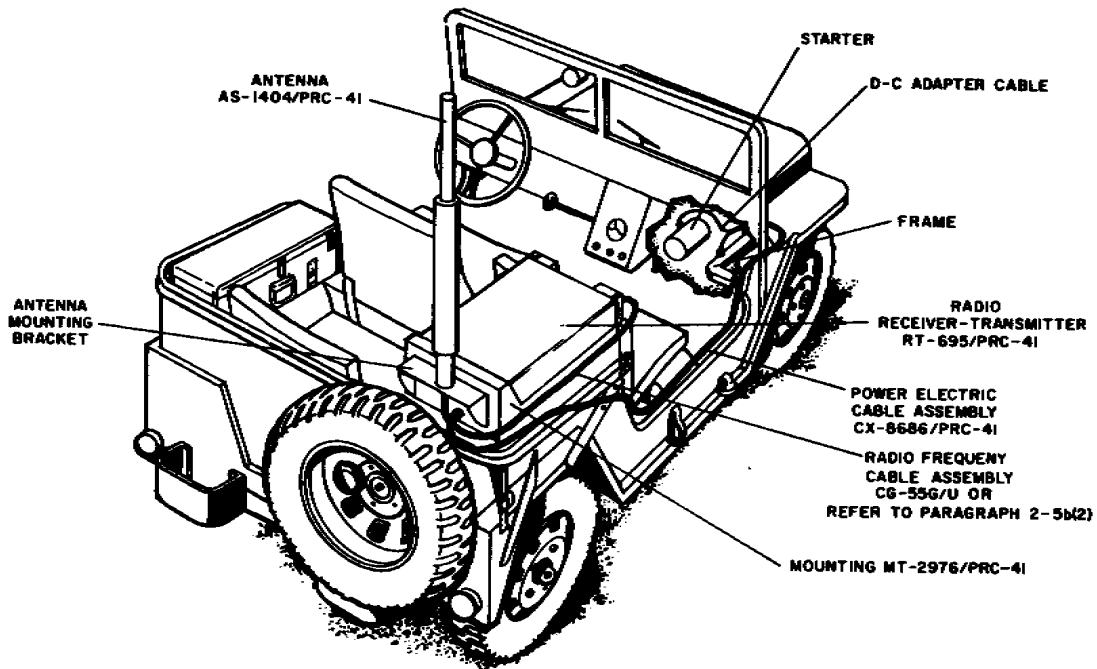

Figure 2-7. Radio Set AN/PRC-41, Vehicular Installation
c. VEHICULAR OR AIRCRAFT INSTALLATION. Refer to figure 2-7.